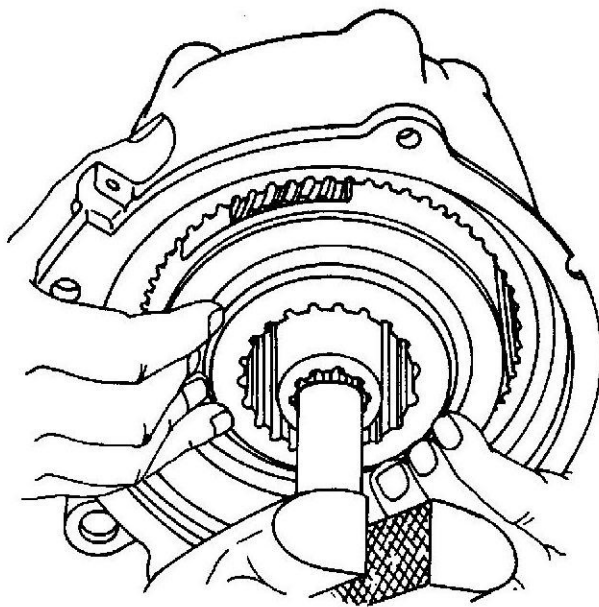
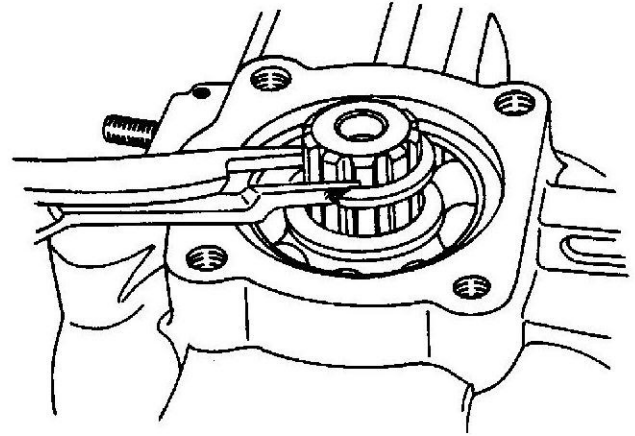

Fig. 2 Mounting Reduction Unit on Socket
Fig. 3 Main Shaft Snap Ring Removal - Installation
- (1) Remove reduction unit as described in appropriate Technical Service Manual.
- (2) Remove power takeoff cover.
- (3) Position 11/16 inch, 1/2 inch drive deep well socket in vise and clamp securely. Allow two inches of socket to extend beyond top of vise.
- (4) Mount reduction unit on socket. Be sure socket enters bore of sun gear (Fig. 2). Reduction unit should be supported by socket.
- (5) Move reduction unit control lever rearward to high range position.
- (6) Remove snap ring and spacer from mainshaft (Fig. 3).